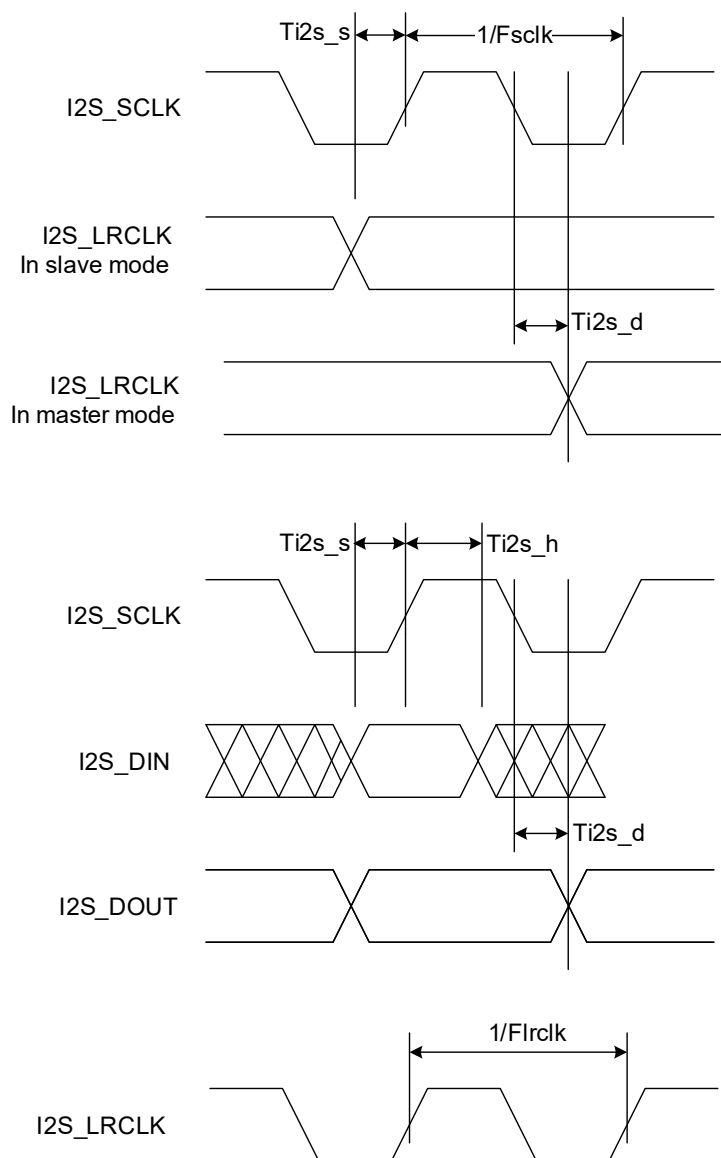

Figure 7. I2S Interface Timing
SPECIFICATIONS AND TIMING FOR THE I2S PORT(5) See <a href="#">Figure 7</a> .